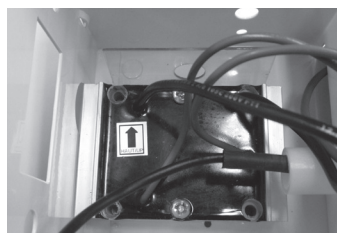

FIG. 1
2. Position the relay on top of the voltage separator. Position the relay in the junction box (Arrow pointing up) and install with screws. FIG. 1